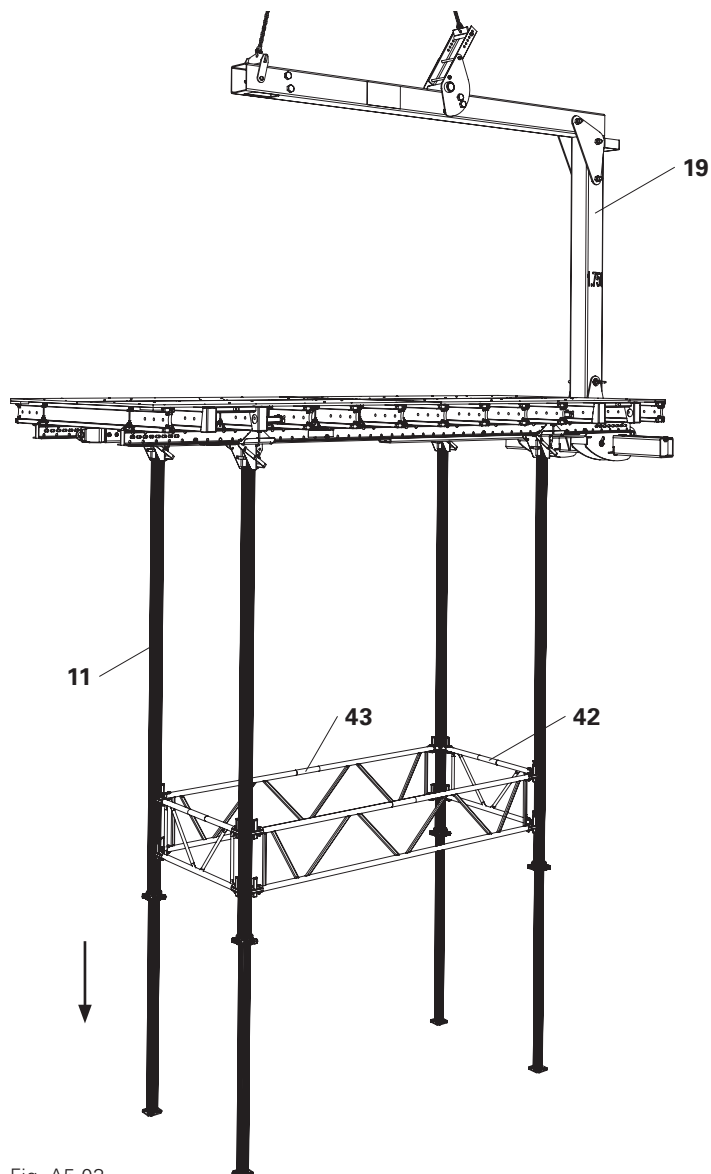

Fig. A5.03
3. Lift slab table, e.g. with the Table Lifting Fork 1.75 t / 8 m (19), and spindle out the MULTIPROP MP 625 slab props (11) to the required height. (Fig. A5.03)
4. Mount MULTIPROP MP 625 (11) on the slab table.